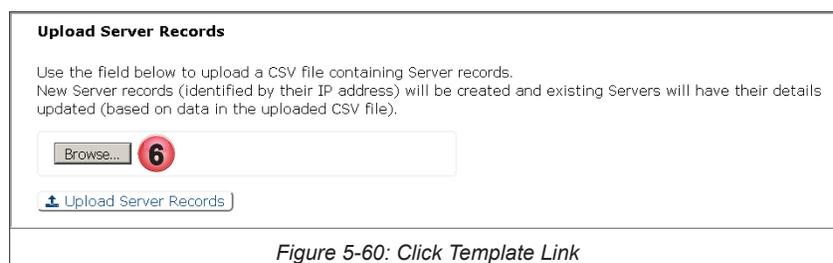

Figure 5-60: Click Template Link
6. In the Upload Server Records section, click **Browse**, Figure 5-60.